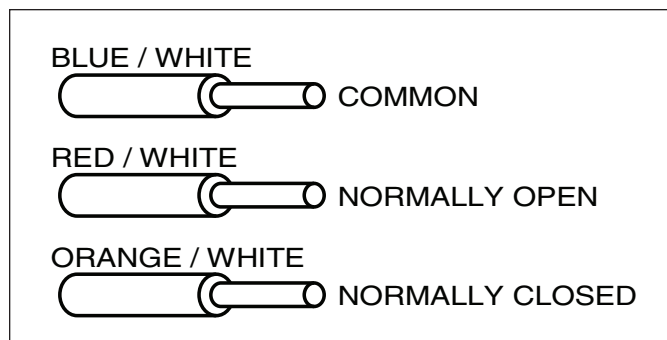

Figure 8. Sidemount Form C Wires
8. Standard and Standard with Surge Counter SPDs also provide wiring for Form C relay contacts. This connection can be used for remote monitoring of the SPD. The Form C contacts are rated at 150V AC or 125V DC at 1A. Make the remote monitoring connections per the Form C wiring diagram in Figure 8. Follow all national, state and local electrical codes when making these connections.